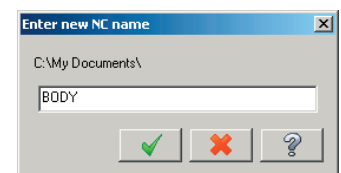

Fig. 10
Step 8. Click OK  in the NC name dialog, Fig. 10.